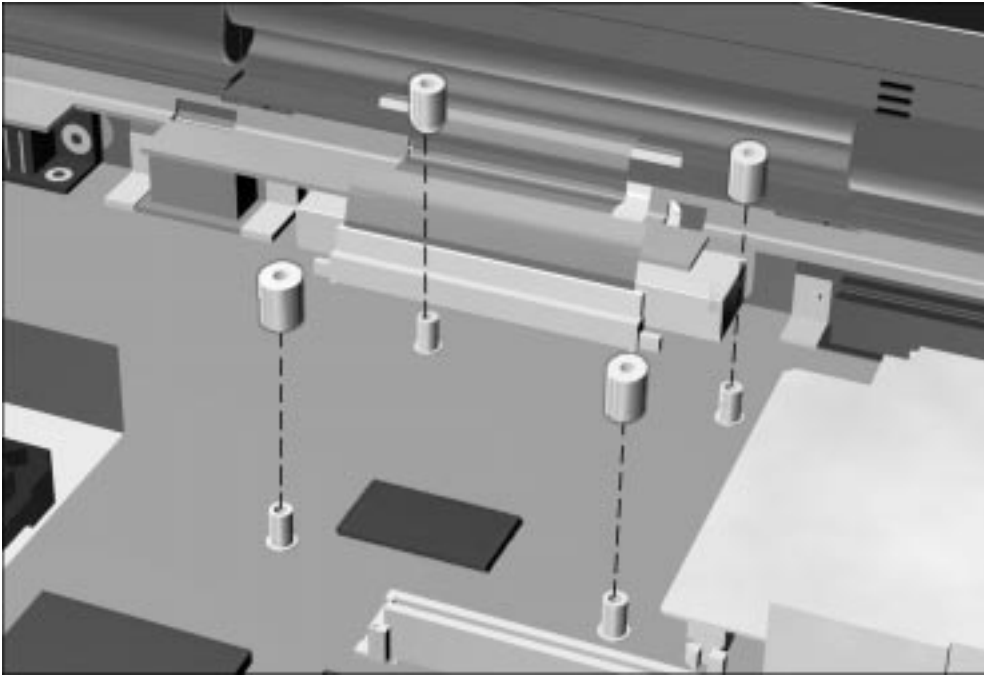

Figure 5-32. Removing the Processor Board Spacers
4. Remove the four spacers from the mounting posts on the processor mounting bracket (Figure 5-32).